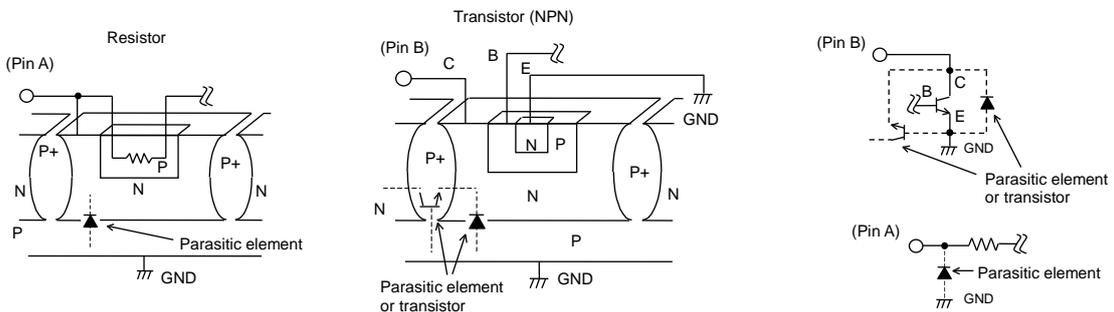

Fig.36 Example of the basic structure of a bipolar IC
- 2) This IC is bipolar IC that has a P-board (substrate) and P+ isolation layer between each device, as shown in Fig.36. A P-N junction is formed between this P-layer and the N-layer of each device, and the P-N junction operates as a parasitic diode when the electric potential relationship is $GND > Pin A$, $GND > Pin B$, while it operates as a parasitic transistor when the electric potential relationship is $Pin B > GND > Pin A$. Parasitic devices are structurally inevitable in the IC. The operation of parasitic devices induces mutual interference between circuits, causing malfunctions and eventually the destruction of the IC. It is necessary to be careful not to use the IC in ways that would cause parasitic elements to operate. For example, applying a voltage that is lower than the GND (P-board) to the input terminal.